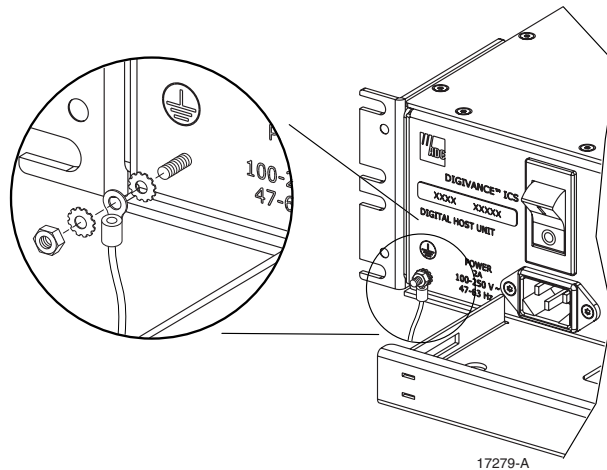

Figure 16. Chassis Ground Stud
3. Locate the chassis ground stud at the front of the DHU as shown in Figure 16.
4. Secure the ring end of the wire to the chassis ground stud (see Figure 16) using the nut and two star washers provided.